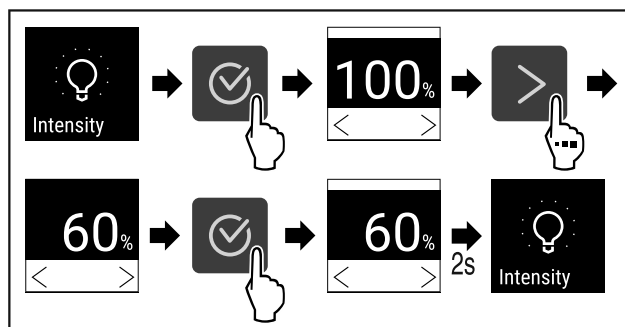

Fig. 72
- Complete steps (see Fig. 72) .